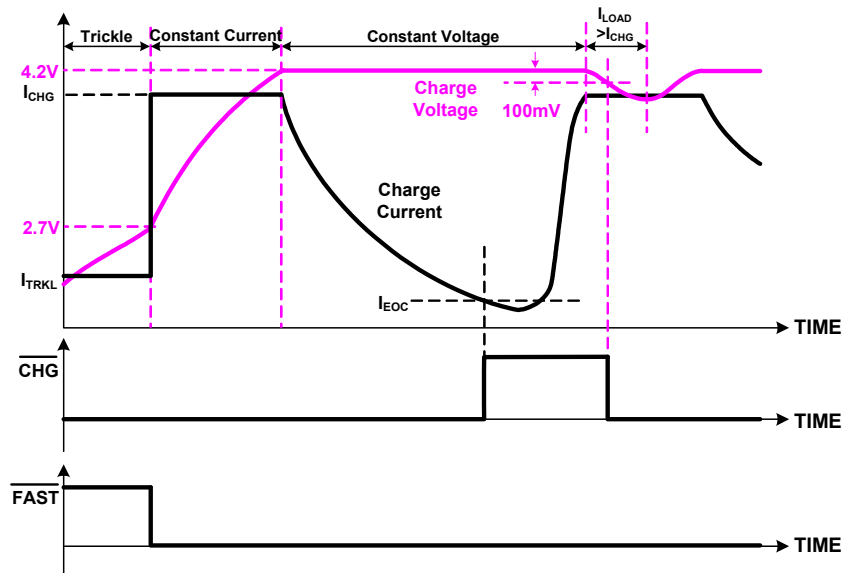

Figure 21. Charge Profile
The MC34673 uses the standard charge profile with trickle, constant-current (CC), and constant-voltage (CV) charge modes, as shown in Figure 21. Both the CC and the CV charge modes are also called fast-charge mode. When the input voltage rises above an internal power-on-reset threshold, the $\overline{\text{PPR}}$ pin outputs a low voltage to indicate the power-supply presence. The charger starts with the trickle-charge mode until the battery voltage is above 2.7V. The $\overline{\text{CHG}}$ pin outputs logic low voltage at the beginning of the trickle-charge mode. If the battery voltage is unable to rise due to a battery failure, charging will remain in the trickle-charge mode. When the battery voltage reaches the 2.7V threshold, the MC34673 softly changes to the CC-mode. The soft transition minimizes the input-voltage drop and reduces the requirement of the input decoupling capacitance. In the fast-charge mode, the $\overline{\text{FAST}}$ pin outputs a low voltage. When the battery voltage reaches 4.2V, the MC34673 enters the CV-mode and regulates the output voltage at 4.2V. The charge current decreases gradually in the CV-mode. When the current drops to the EOC current threshold, the MC34673